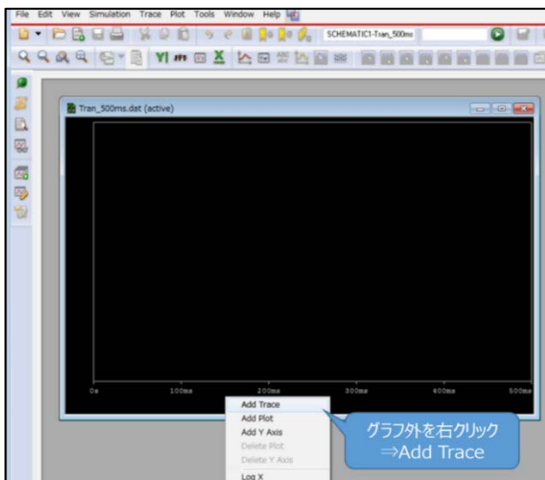

Fig. 5.5 Graph Window
- (1) Right-click outside the graph area and select **Add Trace** as shown in Fig. 5.5.